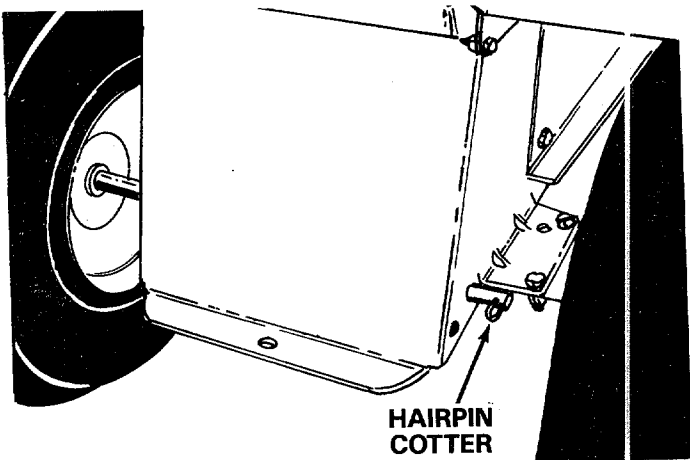

FIGURE 4
3. Remove the two hairpin cotters from the shaft on the rear of your tractor. See figure 4. These will be reassembled in steps 4 and 8.